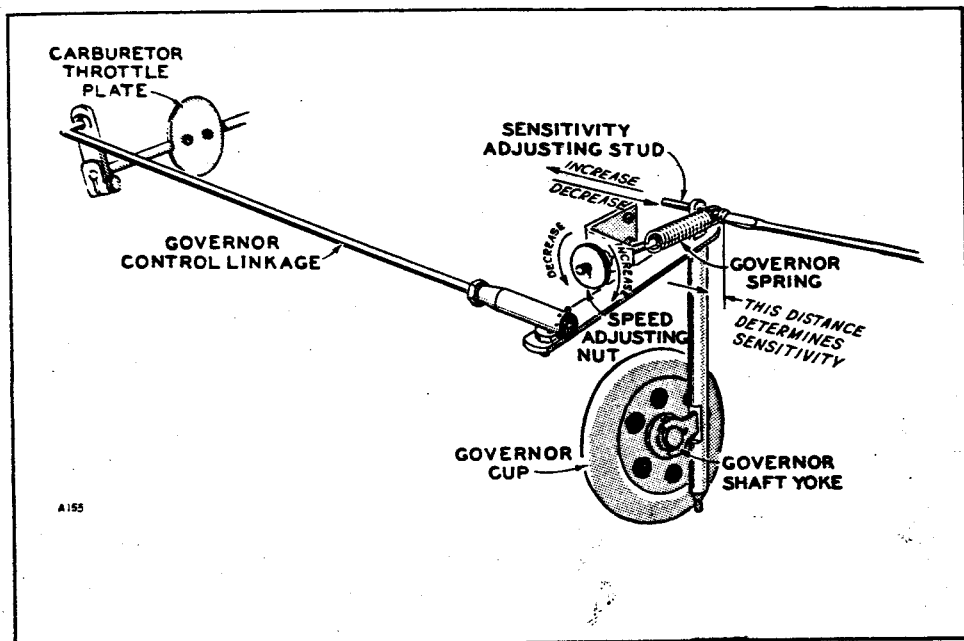

Fig. 19 Governor Adjustments
1. With the plant operating at no load, turn the speed adjusting nut, F Fig. 19, to obtain a frequency reading of between 60 and 63 cycles for a 60 cycle plant (50 to 53 cycles for a 50 cycle plant). The voltage should be within the limits shown in the table III according to the rated voltage shown on the plant nameplate.
2. Connect a full electrical load to the generator. The governor should act smoothly and quickly to keep the voltage and frequency within the limits shown in the table. However, there should be not more than a spread of 3 cycles between the no load frequency and the full load frequency. For example, if the frequency was 62 cycles at no load, then the full load frequency should be not less than 59 cycles. If the cycle spread is more than 3 cycles, turn the sensitivity adjustment screw, Fig. 19, in (clockwise) a half turn. This will, in turn, necessitate a slight compensating speed nut adjustment. Repeat the process until the cycle spread is within 3 cycles, and voltage is within the limits shown in the table.